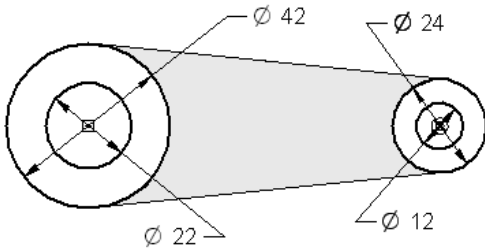

Figure 5-62 Profile for the second feature
- Add the required relationships and dimensions to the sketch, as shown in Figure 5-62.